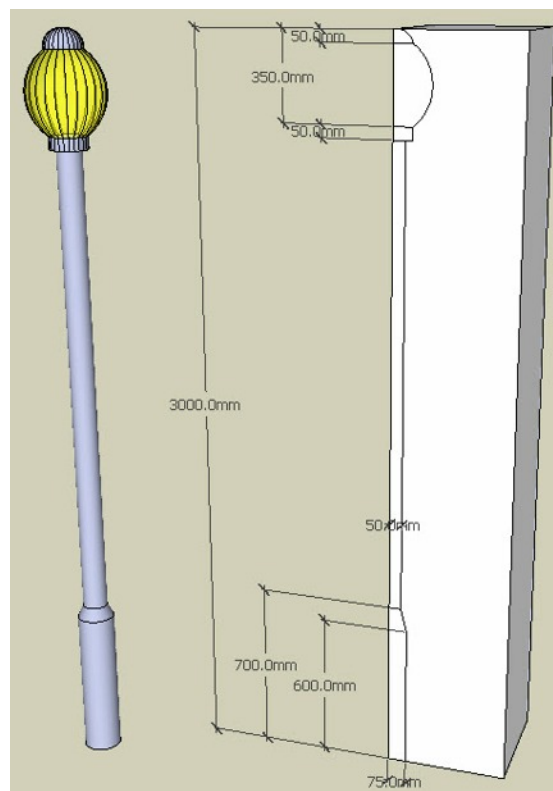

Figure 92. The Tall Streetlight dimensions and completed model
- Using the same process as for creating the bollard and the Low Streetlight, create the Tall Streetlight with the dimensions as shown in Figure 92.
- When completed use the **Paint Bucket** to apply the material 'Translucent Glass Gold' to the light lens and a solid colour of your choice to the remainder of the column as shown in Figure 92.